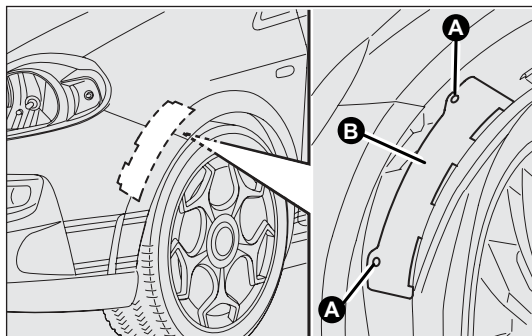

fig. 140
Front fig. 140
- ❑ unscrew the catch A-fig. 140, then lift off the access lid B;
- ❑ close the flap B-fig.140 then screw in the catch A.